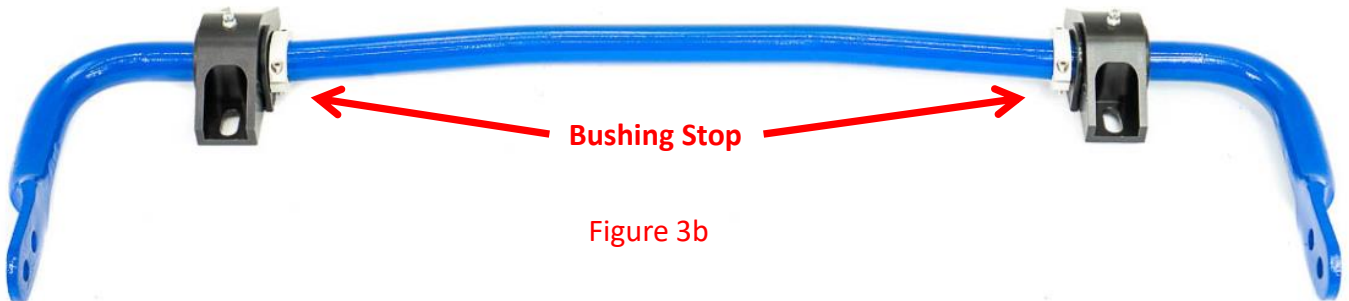
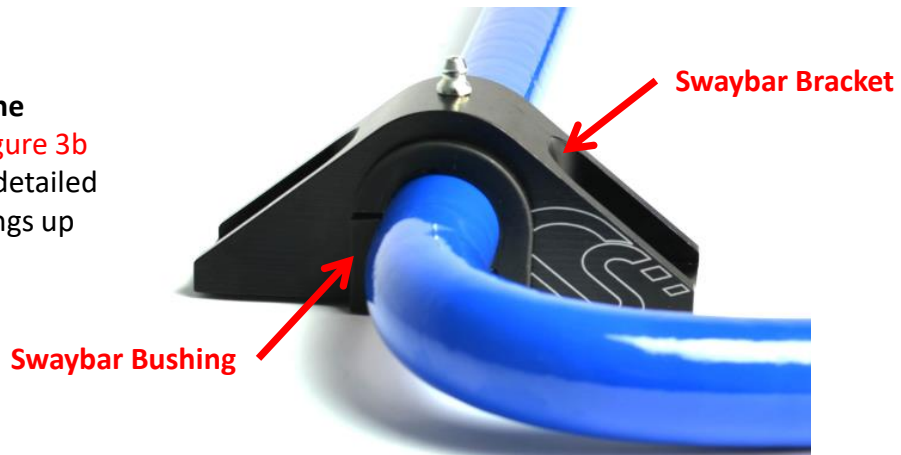

Figure 3b
Figure 3c
- b) Assemble the sway bar brackets on the CorkSport Rear Sway bar. Refer to Figure 3b for final assembly and Figure 3c for a detailed picture. Make sure to press the Bushings up against the welded bushing stop.